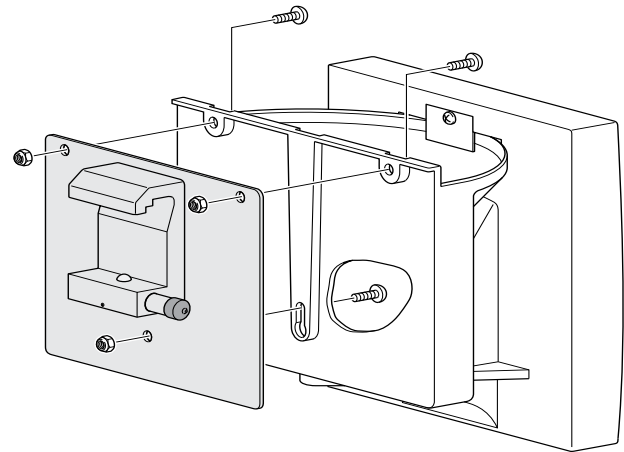

Figure 1. Cuff holder and Rail Mount
2. Insert the first screw through the top corner of cuff holder and rail mount with the screw head facing inside cuff holder (Figure 1).